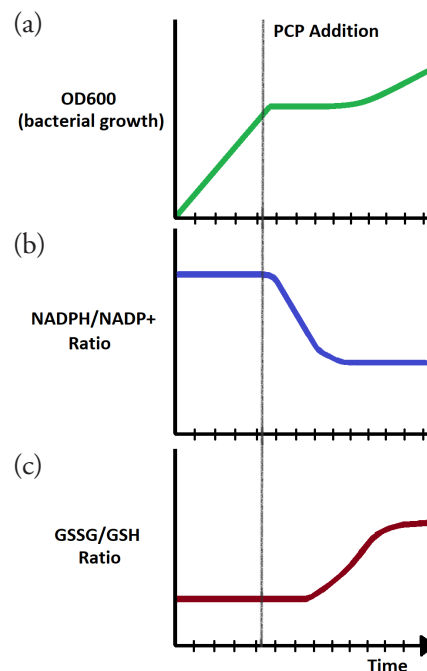

Figure 5v. Graphs for Question 3.
3. We can also measure metabolite concentrations over time. Figure 5v is a set of three graphs showing bacterial growth and metabolite ratios over time with PCP addition. Explain the graphs in your own words, paying particular attention to the timing of events and where each metabolite is used within the PCP degradation pathway.